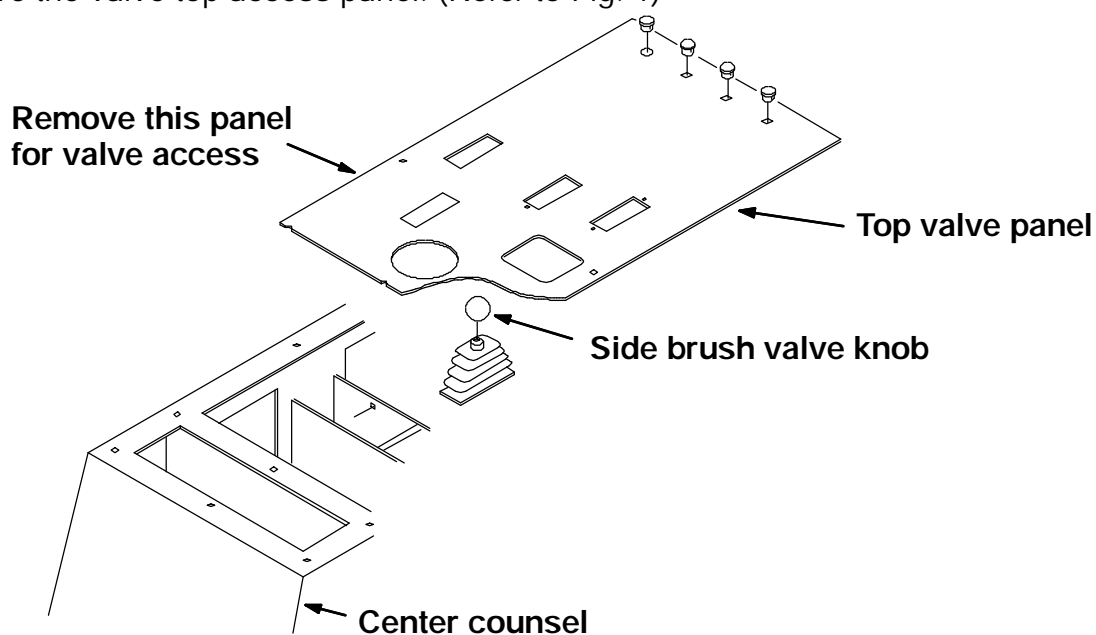

FIG. 1 - Remove Top Valve Panel
(Refer to FIG. 1)
2. Remove the knobs from the hydraulic valve handles inside the cab area. (Refer to Fig. 1)
4. Remove the valve top access panel. (Refer to Fig. 1)
(Refer to FIG. 1 and 2)
12. Reinstall the valve top access panel. (Refer to Fig. 1)
13. Reinstall the water and hydraulic valve knobs. (Refer to Fig. 1)